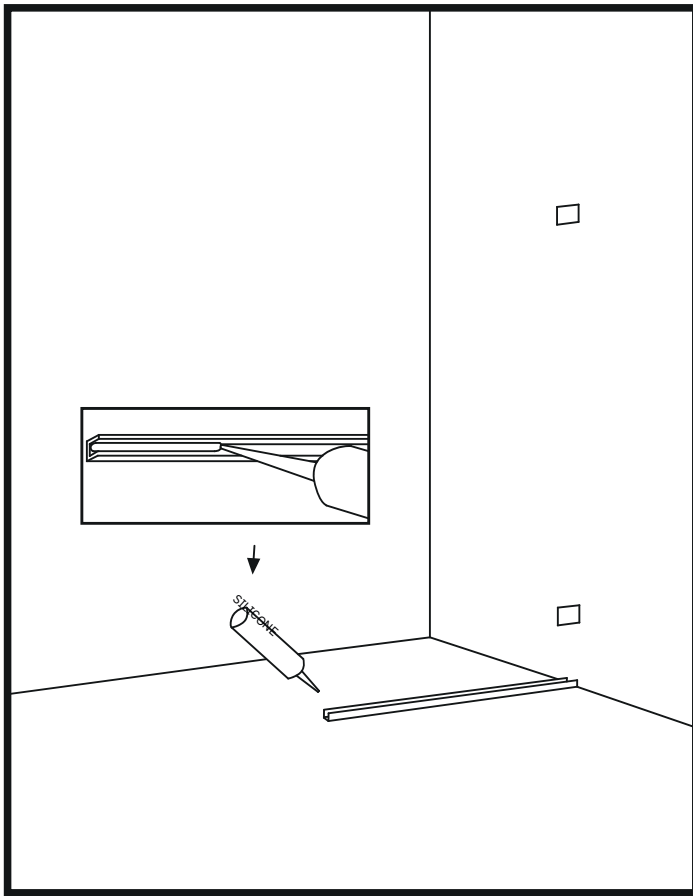

Figure 5
9. Take the clamps included in the kit and attach them to the wall using the screws provided. (Figure 5)